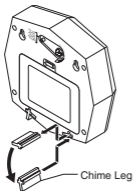

Figure 6
- Slide out the legs from the back of the chime (see Figure 6).